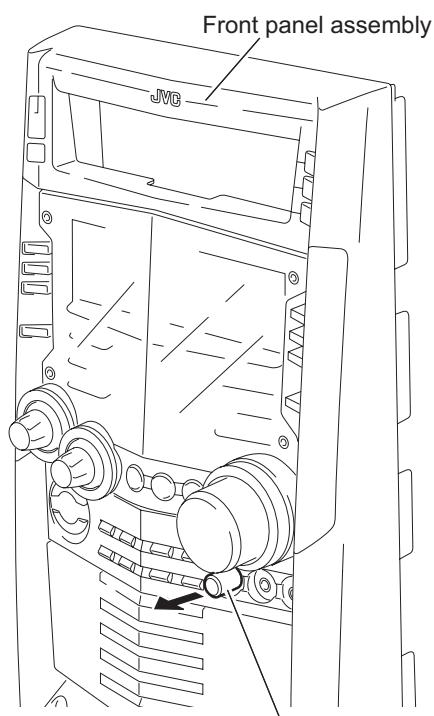

Fig.31
2.2.3 Removing the mic volume board (See Fig.31, 32)